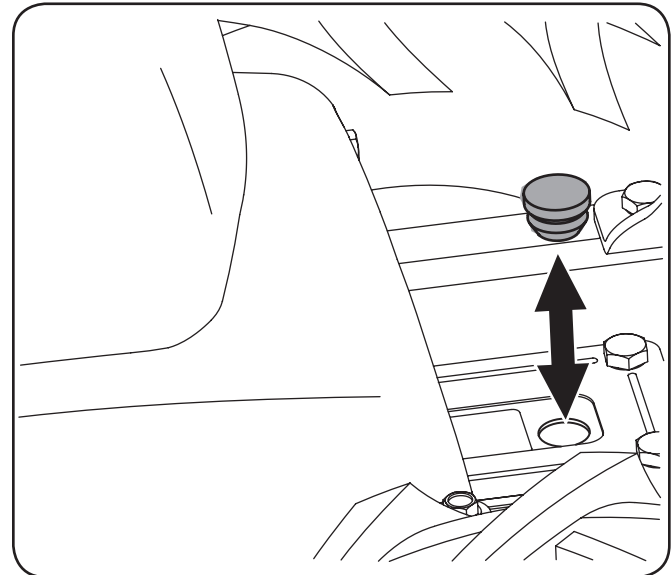

Figure 6-1
- Remove the oil fill plug from the transmission housing and look inside the oil fill hole to locate the main drive shaft situated below the hole. See Figure 6-1.